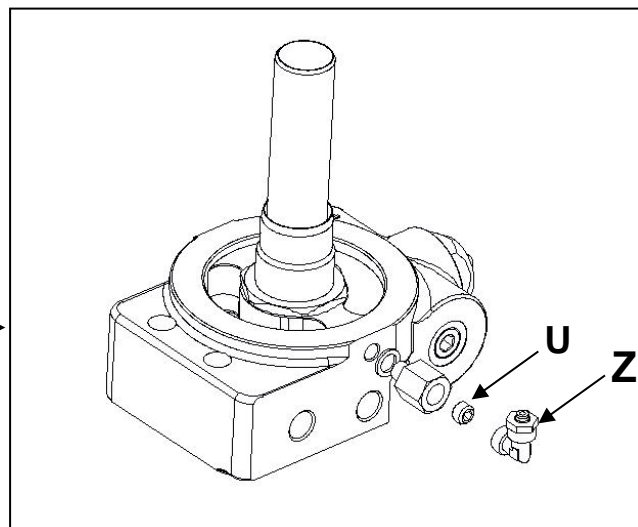

Figure 12.4-4 Nozzle oil recovery
Control and clean the oil recovery is to be performed, should you find a leak of oil mist mixed with air compressed, operating as follows (Figure 12.4-4).
- 1) Unscrew the fitting located at the center of the tank (Letter Z in Figure 12.4-4);
- 2) Inside the ring (Letter Z in Figure 12.4-4) is a nozzle (Letter U in Figure 12.4-4): make sure that its calibrated hole is not blocked (blow with compressed air);